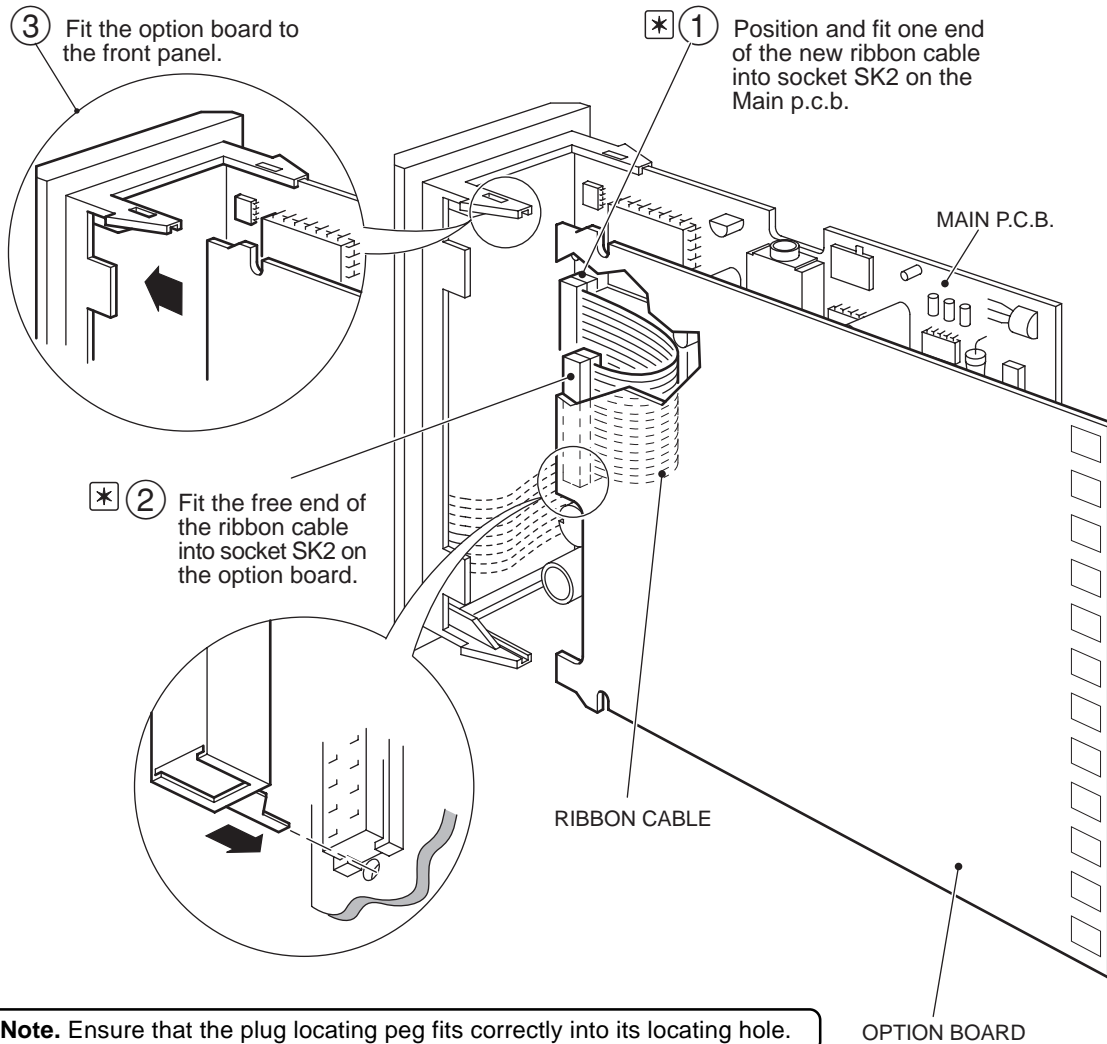

Fig. 1 Fitting an Option Board
3 Fitting the Option Board – Fig.1
- Fit the option board, as detailed in Fig. 1.
...3 Fitting the Option Board – Fig.1